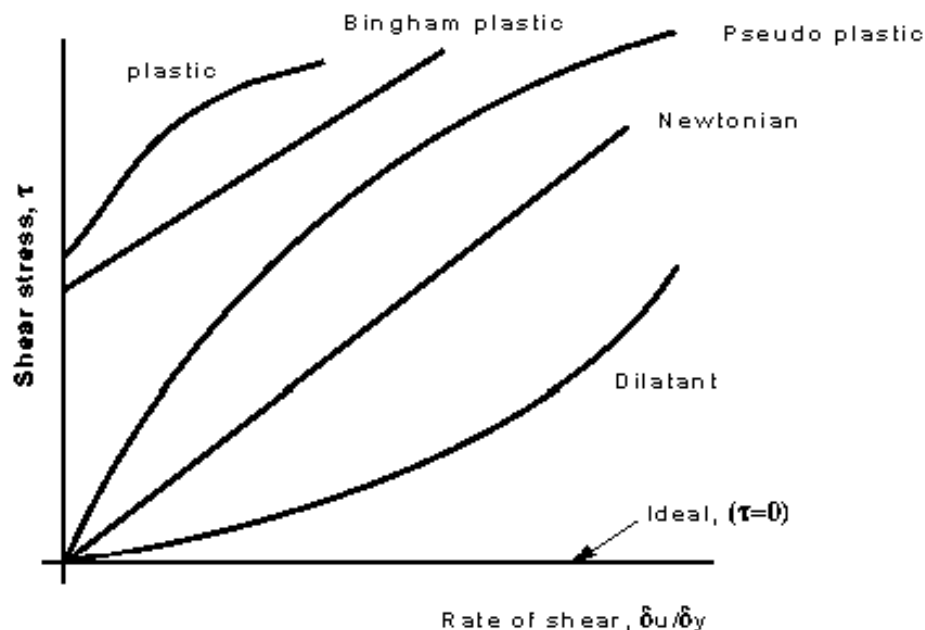

Figure 3 Shear stress vs. Rate of shear strain $\delta u / \delta y$
- c) Gate ABC in Figure 3 is 2m square and hinged at B . How large must h be for the gate to open?